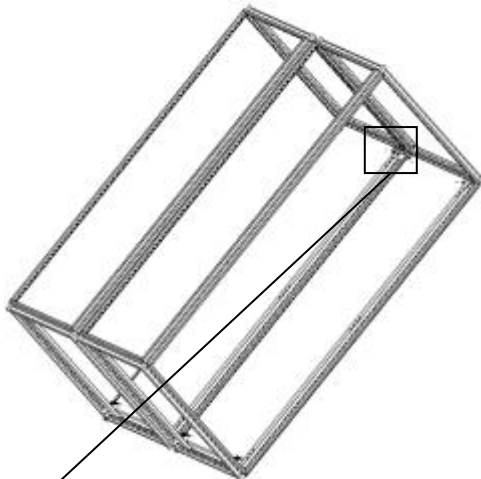

Figure 2
3. Attach top bracket to bayed cabinets using M5.5 self-tapping screws (torque 44 IN-LB [5 N-M]) at depth location for bayed mounting panel to be flush with adjacent full size mounting panels (Figure 2).